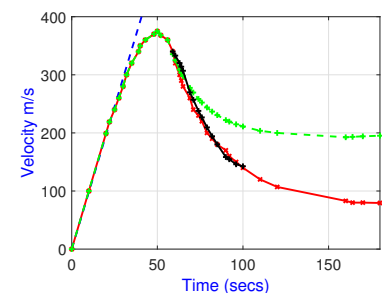

Figure 1: Your final plot should look something like this.
1. Plot the measured values of velocity versus time from the JumpData.CSV file. Put your line into a plot handle called `h_part1` using `h_part1 = plot(...)` as usual. Use the color red for the line. Mark each point on your line with a red  $\times$  mark. Render this plot as Figure 1. Fix your axes to a time duration of 180 secs and a maximum velocity of  $400\text{m/s}^2$ . Label the axes appropriately, show the grid and also adjust the fontsize of the axis labels to be 24.
3. Estimate the time at which Mr. B. starts to enter the atmosphere. Do this either by using the plot in Figure 1 (i.e. by graphical/manual estimation) or otherwise. You may assume that when the actual measured velocity deviates from idealised freefall by  $\geq 5\%$  then he has entered the atmosphere. Print out to the command line a report of this value i.e. *Mr. B. enters the earth's atmosphere at X secs after he jumps*. Assign that value to the variable `hit_instant`.
4. Assume that the velocity of Felix as he falls is modelled by the first order differential equation that we used in the previous laboratory. Starting from the initial conditions at  $t = 56$  secs use your numerical solution code from the previous laboratory to generate an estimate of the velocity of Mr B after that time i.e. up to 180 secs. Assume initial conditions are as measured in the file. Use  $c/m = 3/60$ . Superimpose the resulting numerical solution of velocity versus time on your plot in Figure 1 using a dashed green line **with (+) markers for each point**. Assign that line to the plot handle `h_part4`. Assign your velocity vector to the variable `v_numerical_1`.